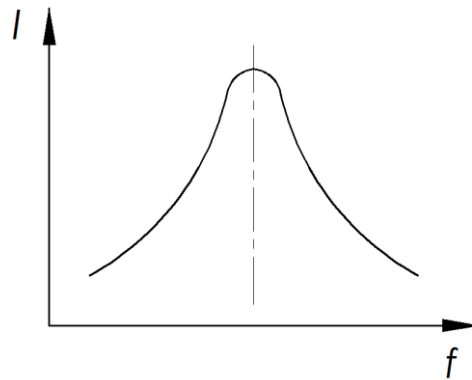

Figure 1.34 Current verse frequency in a RLC circuit
**Figure 1.34** shows a typical curve of current verse frequency for a series RLC circuit.